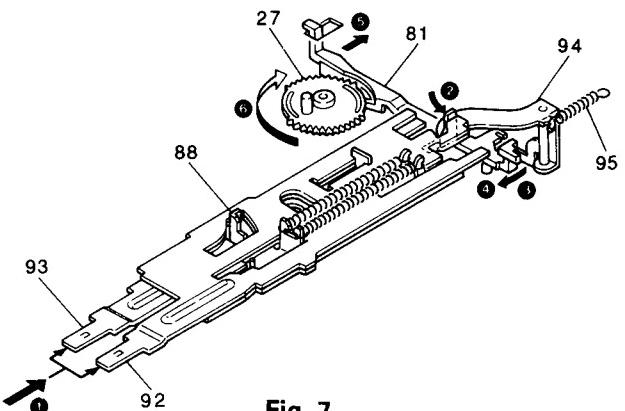

Fig. 7
1. When pressing FF/REW (92 and 93) levers at the same time (①), the levers are placed into a slot on the PC (Play Change) plate (94) in direction of arrow (②) in Fig.7.
2. The PC plate (94) moves in the direction of arrow (③), trigger arm (81) is kicked in the direction of arrows (④) and (⑤), thereby releasing the turn-over gear (27).
3. The turn-over gear (27) is rotated in the direction of arrow (⑥) by ED (End Detector) gear (26), which moves main plate (64).